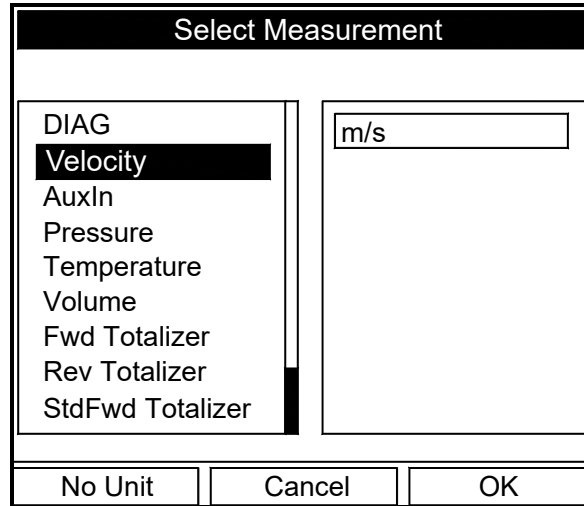

Figure 23: Data Source Selection Window
2. Scroll to the next prompt and select the Data Source measurement type from a list of choices (see Figure 23 on page 19).
- e. Press **[F3]** (OK) to confirm your selection.